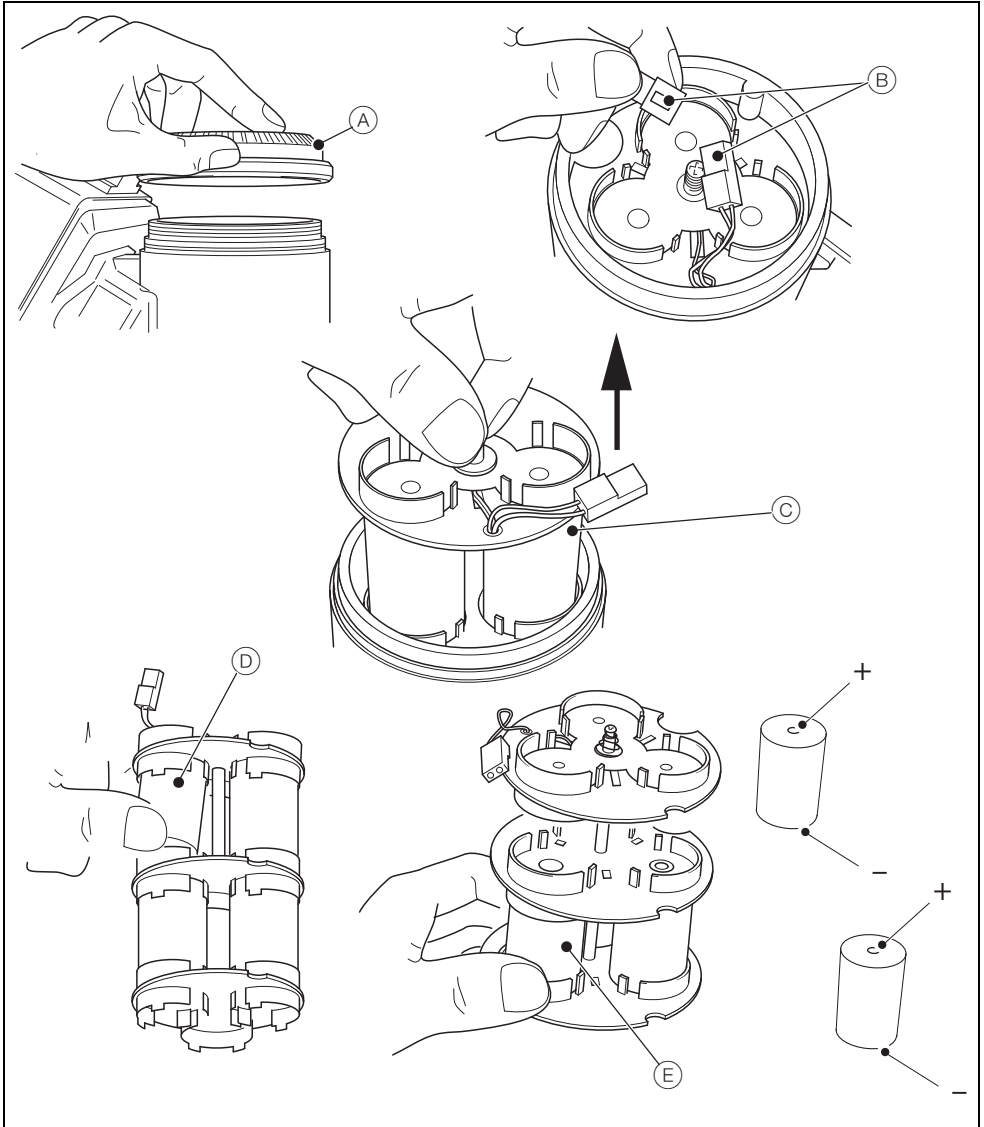

Fig. 3.18 Internal Battery Pack (Integral Transmitters Only)
Referring to Fig. 3.18:
1. Remove enclosure lid (A).
3. Disconnect battery connector (B).
4. Carefully remove battery pack (C) from enclosure.
5. Carefully remove 3 cells (D) in turn from the top level of the pack.
6. Carefully remove 3 cells (E) in turn from the bottom level of the pack.
7. Fit 3 new cells to the bottom level of the pack, ensuring the correct polarity, as shown in Fig. 3.18, page 29.
9. Carefully refit battery pack (C) to enclosure.
10. Reconnect battery connector (B).
12. Ensuring O-ring seal and O-ring groove is clean, refit enclosure lid (A) and tighten finger-tight.